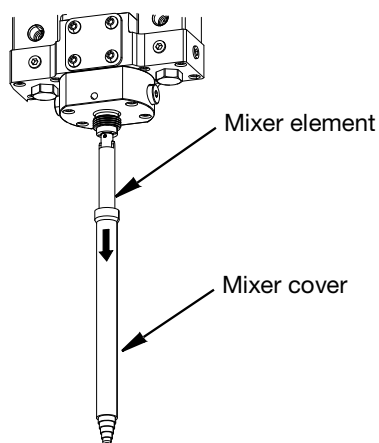

FIG. 37
- Slide the mixer cover off the mixer elements. See FIG. 37.